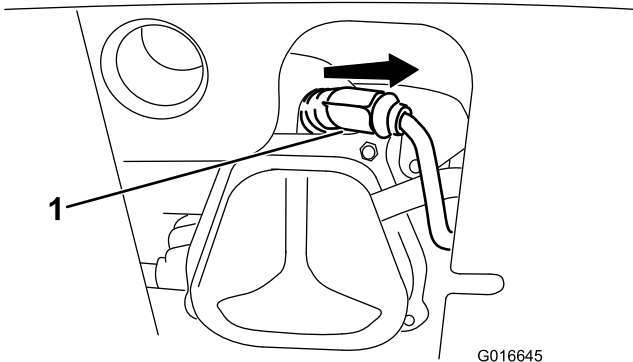

Figure 51
1. Remove the boot (Figure 51).